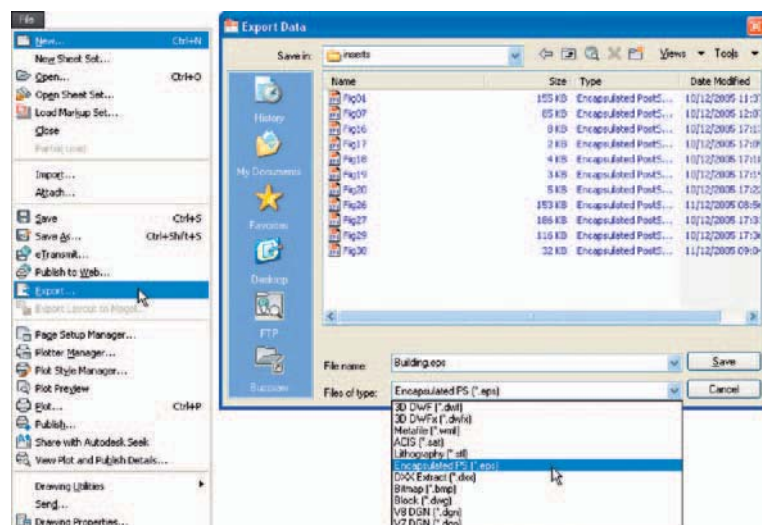

Fig. 10.3 Selecting the **Export** tool icon from the **File** drop-down menu and the **Export Data** dialog
1. With the same drawing on screen *click* on **Export...** in the **File** drop-down menu (Fig. 10.3). The **Export Data** dialog appears (Fig. 10.3). Pick **Encapsulated PS (*.eps)** from the **Files of type** pop-up list then enter a suitable file name (e.g. **building.eps**) in the **File name** field and *click* the **Save** button.